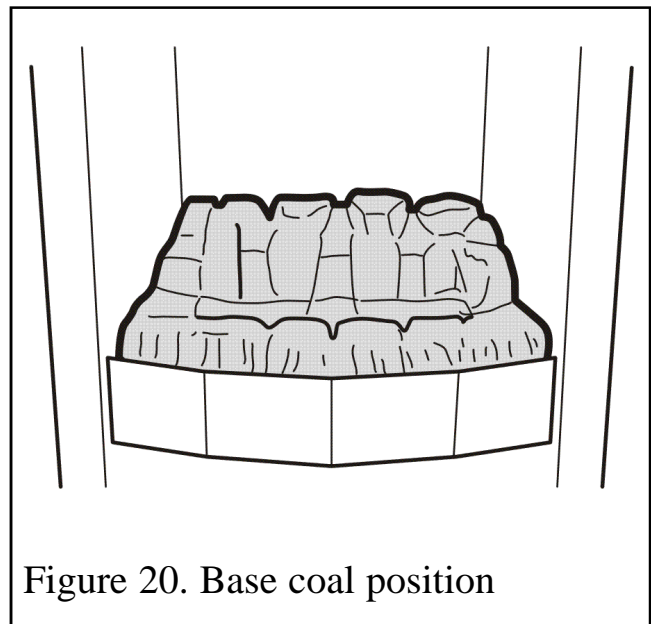

Figure 20. Base coal position
1. Place the base coal in the firebox (See figure 20).